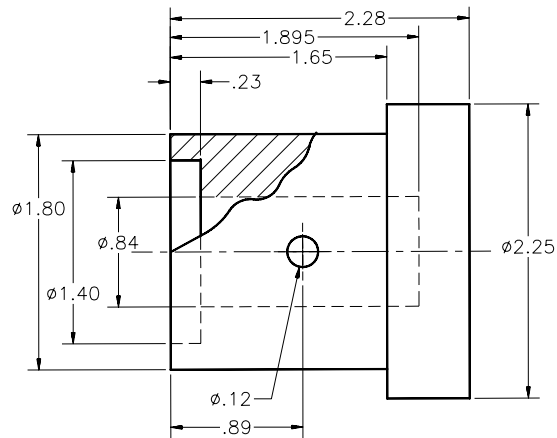

Figure 18-36 Drawing of Part-2
4. Draw Part-2 with dimensions as shown in the Figure 18-36. Save the drawing as Part-2.